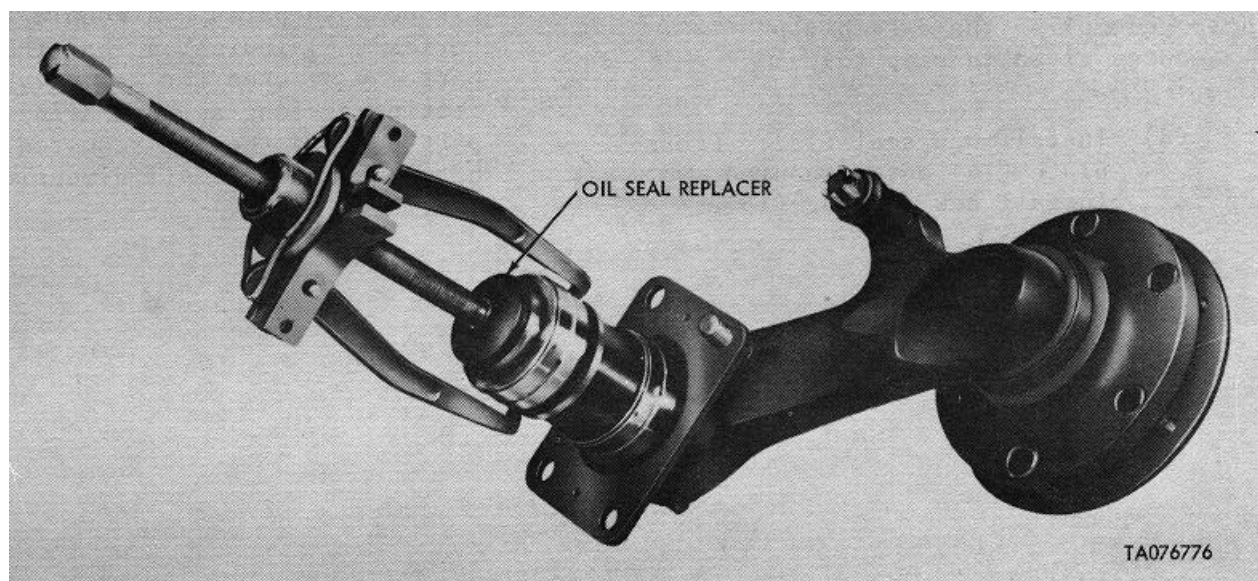

Figure 4-6. Trunnion - Bearings and Spacers Replacement Using Replacer
- (a) Arm (25) and housing (16). If arm and housing are worn in excess of the limits specified in figure 4-6, arm and housing must be replaced. Remove nicks and burrs from bore, outside diameter, and sealing surface of housing.
- (b) Fittings and plugs (26), (27), (28) and (8). Replace plugs which have damaged threads.
- (c) Plate (14). Straighten the plate if it is bent.
- (d) Arm (25). Replace arms which have damaged components, i.e., twisted splines, damaged threads, etc. Remove minor nicks and burrs from the mating surfaces of arms.
- (e) Hub (2). Replace if hub bores are scored. Retap damaged threaded holes.